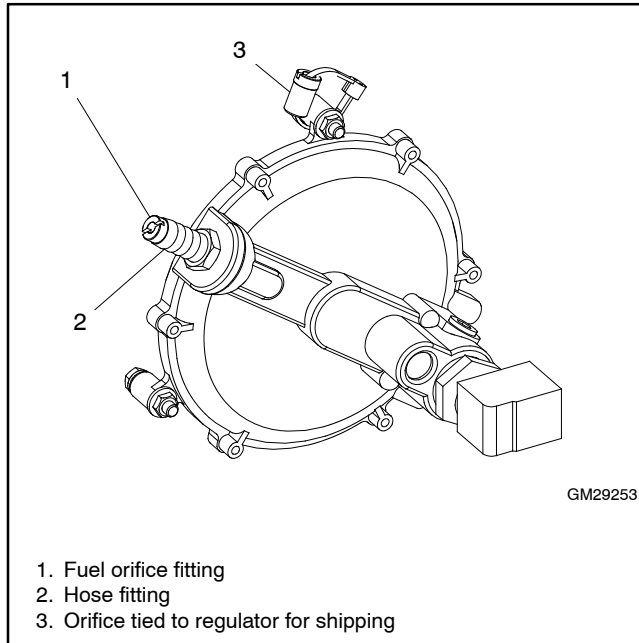

Figure 6-41 Fuel Orifice Fitting Installation
6. Use a straight-blade screwdriver to remove the NG orifice from the hose fitting. See Figure 6-41.